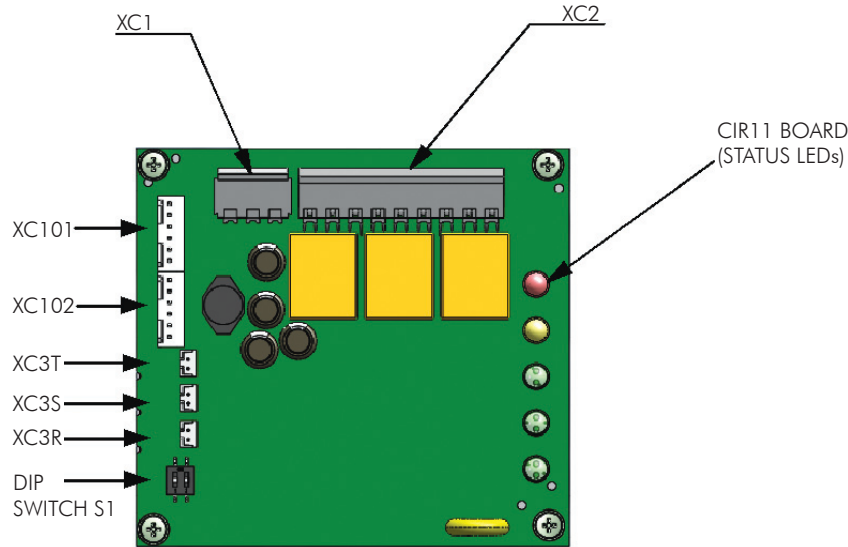

Figure 3.20 - CIR11 board connection points
The RL1, RL2 and RL3 relay digital outputs of the CIR11 board (figure 3.20) are used to monitor the operation status of the UR11 and the alarm and fault conditions of the temperature. The NO position indicates that the UR11 is under regular operation and the NC position indicates a fault/alarm situation. Refer to item 5.2 for more details.